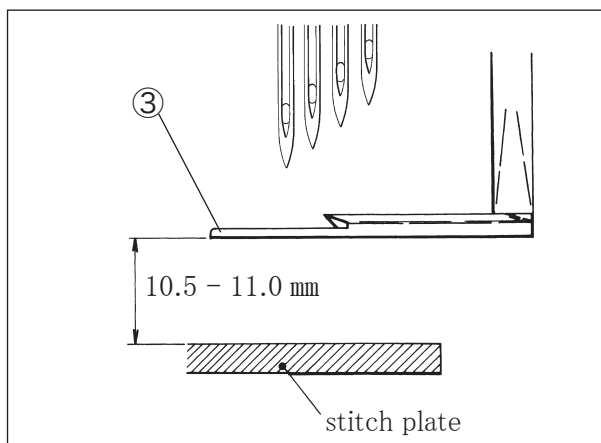

Fig. 6-31
- (2) Make the height from the top of the stitch plate to the bottom of the spreader ③ to 10.5 - 11.0 mm . (Fig. 6-31 and 6-32)